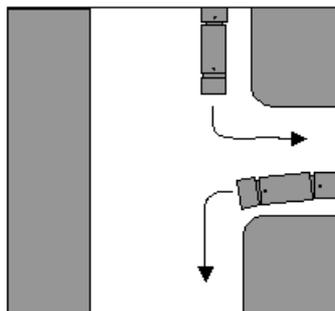

Fig 11
35.3.1 left into and/or out of a depot, you must keep as near as practicable to the left kerb (Fig. 11);